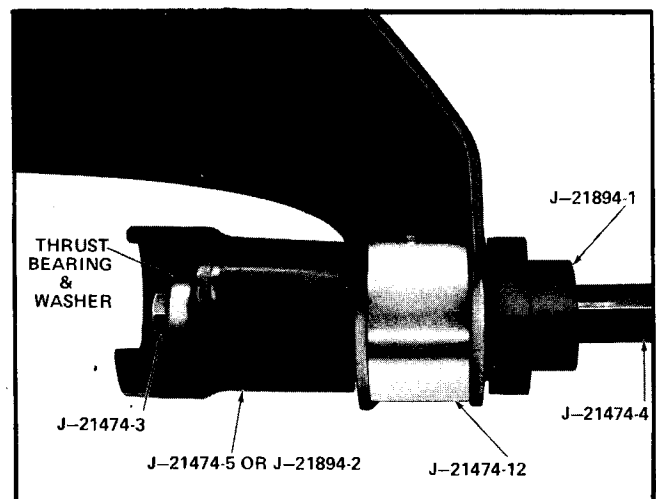

Fig. 3-27 Installing Lower Control Arm Rear Bushing
1. Install bushing in lower control arm by arranging tools as shown in Fig. 3-27 and press bushing into arm.